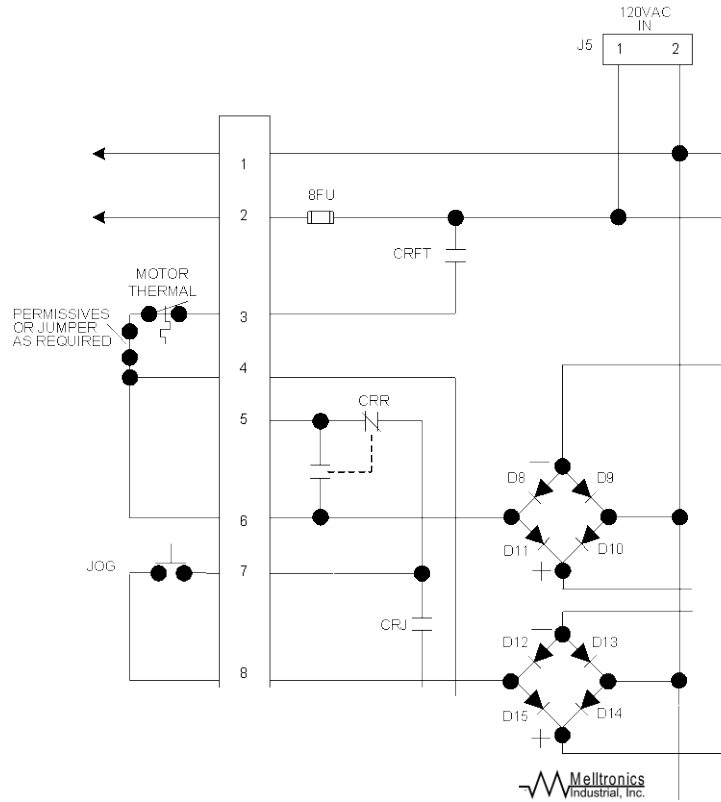

Figure 21: Two-Wire On/Off Circuit on Main PC Board P/N 232-4101
**CAUTION FIGURES FIGURE 13, FIGURE 29, FIGURE 35, THROUGH FIGURE 36 AND SECTION 8 SHOW A THREE-WIRE START/STOP CIRCUIT ON A 232-4101 MAIN PC BOARD. IF A TWO-WIRE ON/OFF CIRCUIT IS DESIRED ON THIS BOARD, IT MUST BE CONNECTED AS SHOWN IN FIGURE 21.**